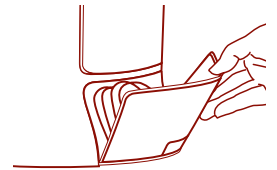

Figure 2
3. Plug appliance in. Remove the Cord Storage Door by pushing down on the release tab located on the Cord Storage Door. Remove the power cord and plug the unit into a standard 120 Volt wall socket. Replace the Cord Storage Door and position the power cord in the slot below the cord storage release tab. *Figure 2*